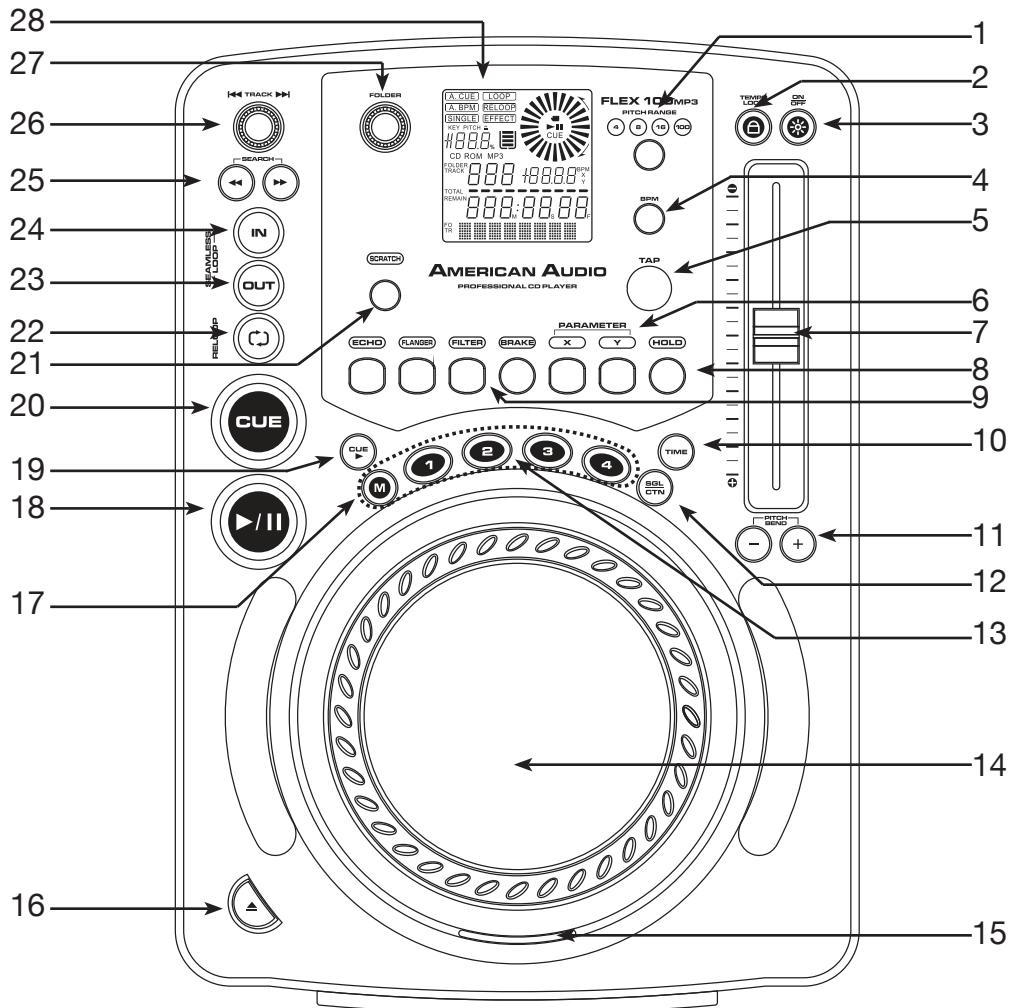

Figure 3
A. TOP UNIT CONTROLS (FIGURE 3)
3. PITCH ON/OFF BUTTON - This button is used to activate the PITCH SLIDER (7). When the button LED is lit the PITCH SLIDER (7) is active. When the button LED is not lit, the PITCH SLIDER (7) is not active. The pitch percentage can be changed between 4%, 8%, 16% and 100%. 4% will allow the least amount of pitch manipulation and 100% will allow the most amount of pitch manipulation.